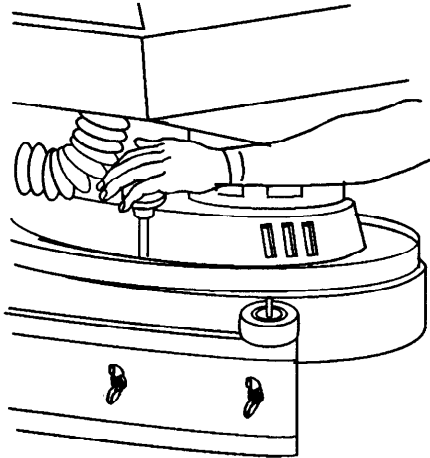

FIG. 2.
3. To remove the brush or pad driver, push down on the brush release pin, located on the scrubber head, behind each scrub motor. Figure 2.